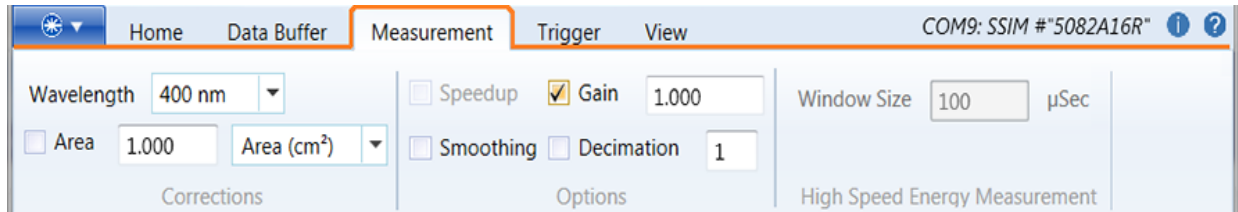

Figure 8-5. Measurement Tab
5. **[Measurement tab]** For a basic power measurement, select or change settings in the Measurement Tab, as shown in the example in Figure 8-5: